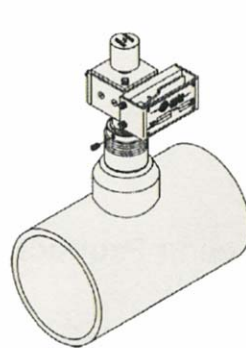

Figure 2
4. Loosen Lock Screw on 2" NPT Adapter (Figure 2).